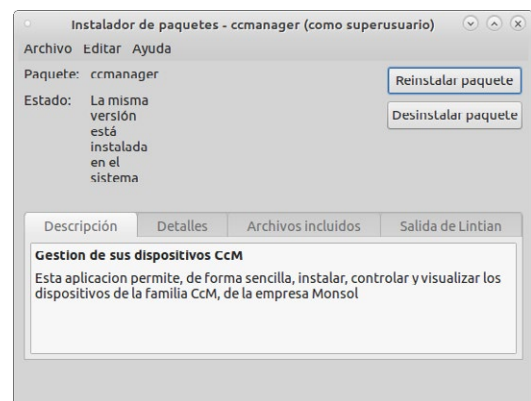

Figure 6 Linux – Installation process 3 of 3
- In the package installation window, you will see that the CcManager is installed in the system (Figure 6).